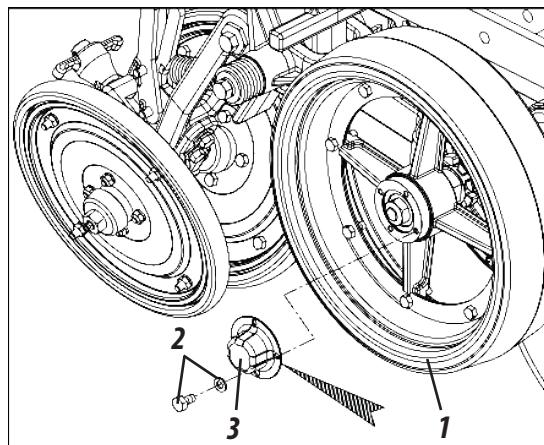

*Figure 61*
LUBRICATE AFTER EVERY 60 HOURS OF OPERATION (FIGURE 61)
*Loosen the nut (1), slide the stretcher (2) adjust the chain tightness (3). Then retighten the nut (1), as shown in figure 61.*